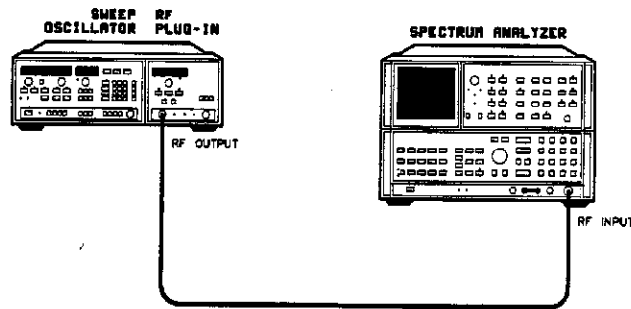

Figure 4-10. Square-Wave On/Off Ratio and Symmetry Test Setup
1. Connect the equipment as shown in Figure 4-10. Press [INSTR PRESET] on both the sweep oscillator and the spectrum analyzer. Allow the equipment to warm up for one hour.